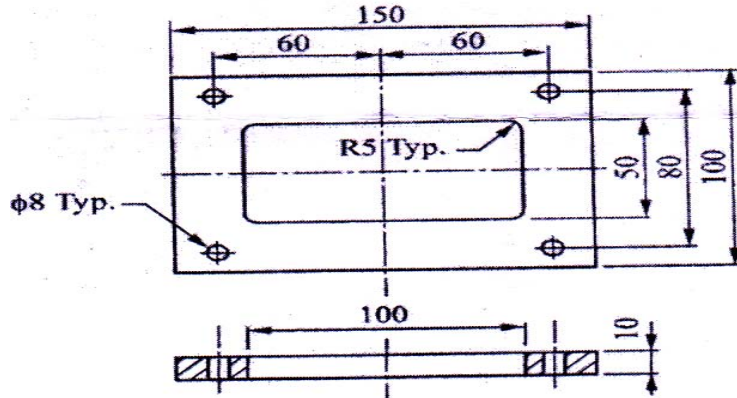

Figure 4
b) Write a CNC program in G and M codes for milling the slot 50 mm X 100mm sides of the part as shown in the Figure 4 also write remark for each block. [8]